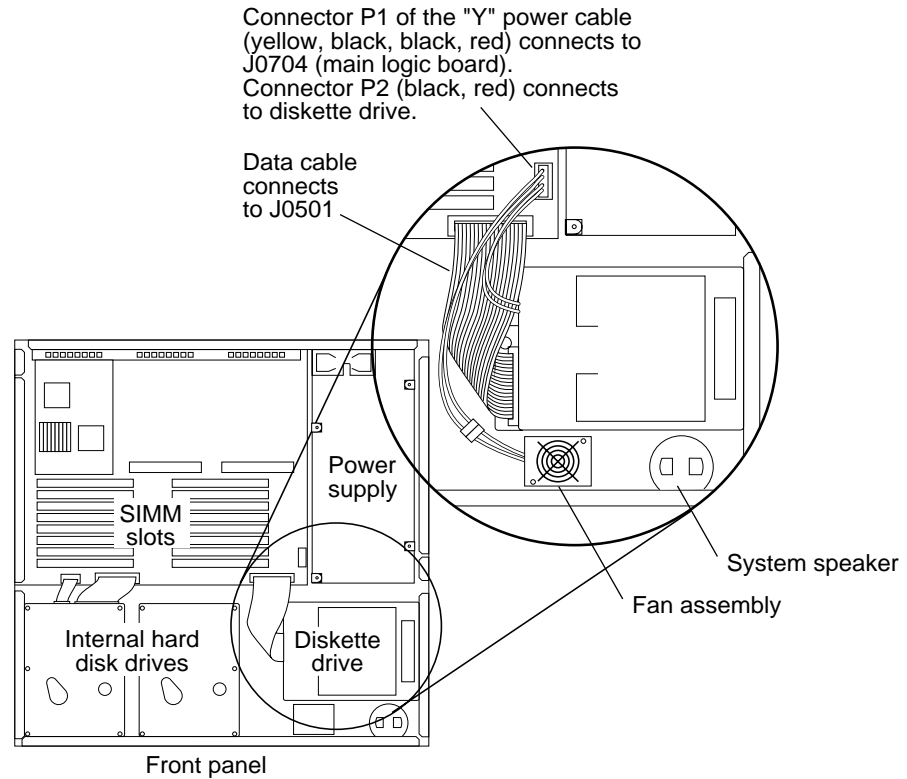

Figure 4-17 Connecting Power and Data Cables to the Diskette Drive
- 6. Disconnect the "Y" power cable from the main logic board and the fan assembly (see Figure 4-17).**
- 2. Disconnect the data and "Y" power cable from the drive (see Figure 4-17).**
- 5. Connect the data and "Y" power cables to the replacement drive (see Figure 4-17).**
- 3. Connect the data and "Y" power cables to the main logic board (see Figure 4-17).**
- 5. Connect the "Y" power cable to the fan assembly (see Figure 4-17).**